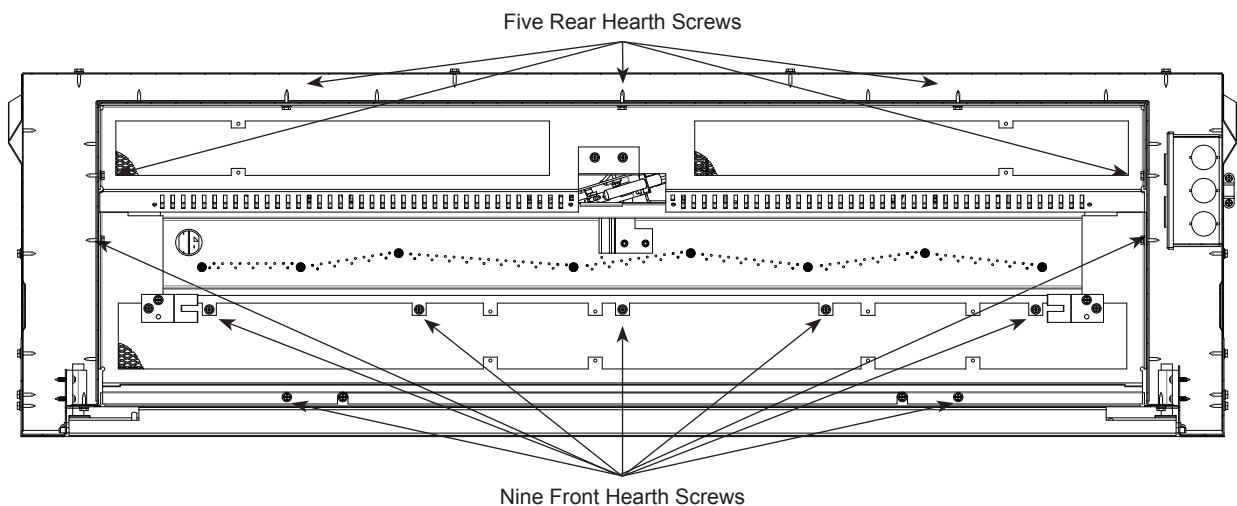

Figure 29 Hearth Screw Locations
6. Remove nine screws that secure the front hearth in place and remove from unit. *Figure 29*
8. With (twelve 15W) bulbs installed in front and rear light bar, reinstall the rear hearth first with five screws that were removed earlier. *Figure 29*
9. Reinstall the front hearth with nine screws removed earlier. *Figure 29*